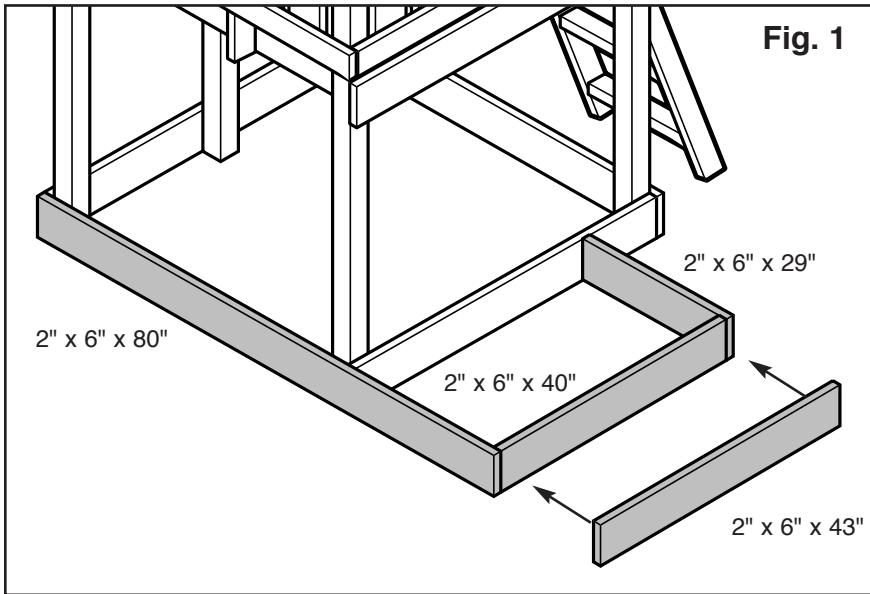

Fig. 1
3. Attach the 2" x 6" x 80" board to the base as indicated in Fig. 1 using four 3" screws at each joint. Drill through the existing holes in the post and through the new base board. Insert previously removed carriage bolts and secure using hardware removed earlier.
4. Attach remaining lumber to the unit as shown in Fig. 1 using three 3" screws per joint.